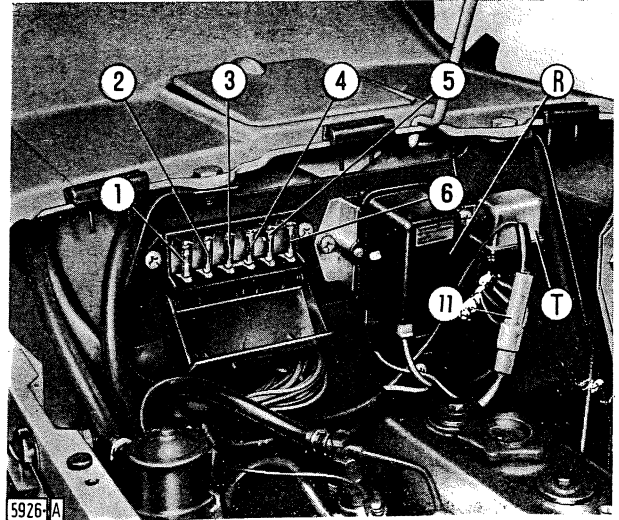

Fig. 21 - Arrangement of the voltage regulator (R) and magnetic switch (T) fuses.
Six fuses are contained in a box and one in a cylindrical holder (Fig.21).The capacity of fuse(1) is 16 amp;for all the others is 8 amp.
They protect (Fig.21) :
- one 16-amp fuse (1, Fig. 21) contained in the fuse box.